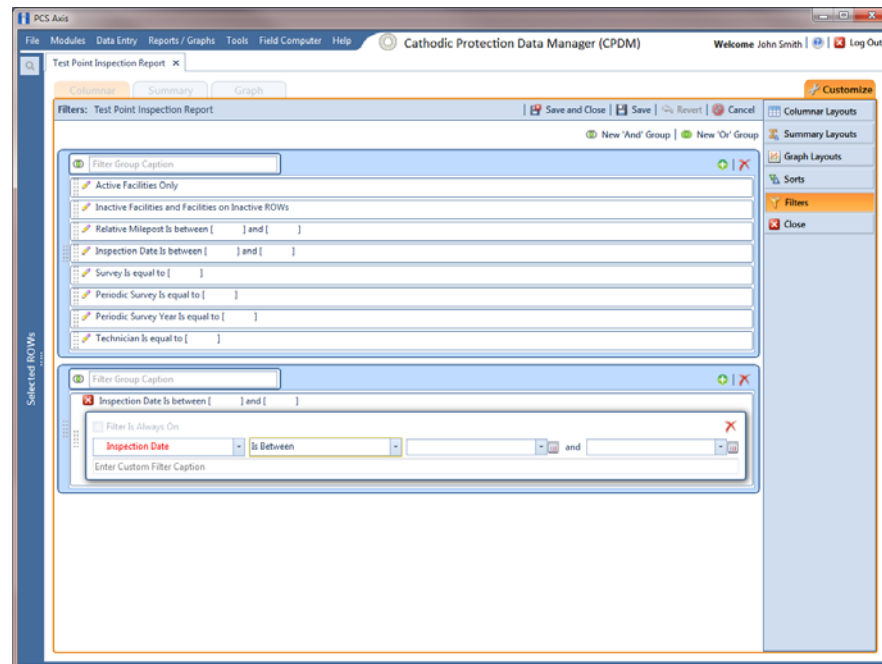

Figure 15-41. New 'And' Filter Group
- Click  **New 'And' Group** to open the filter properties group box (Figure 15-41).
- 7 When adding a date filter, such as *Inspection Date Is Between*, set a date range using a calendar or dynamic dates in the following manner (Figure 15-41, page 663):